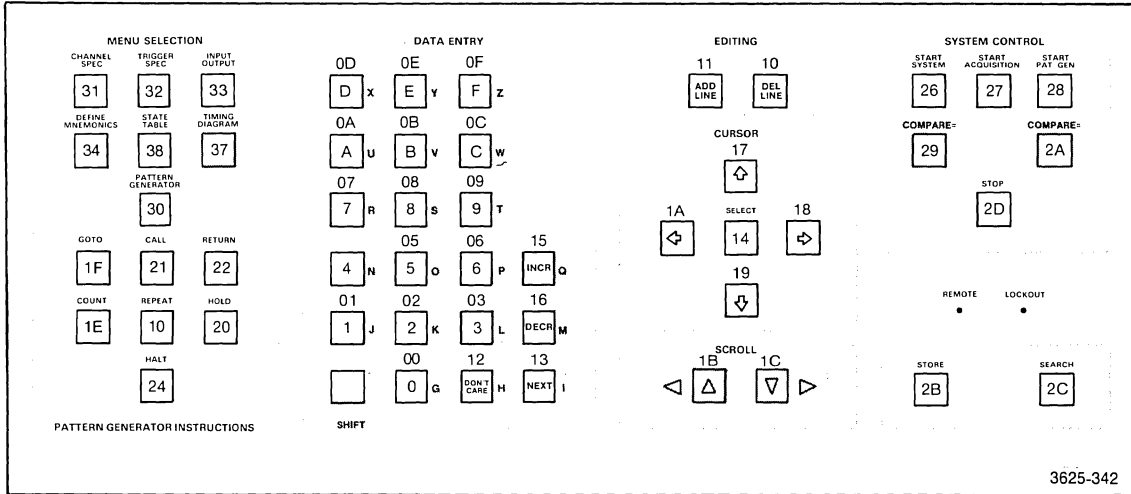

Figure 5-6. DAS keyboard hexadecimal codes.
2. Press all the keys on the keyboard except SHIFT, STOP, SELECT, and up-cursor. The Diagnostics menu should show FAIL for as long as each key is pressed. The display should also show the number that corresponds to the key being pressed (see Figure 5-6).